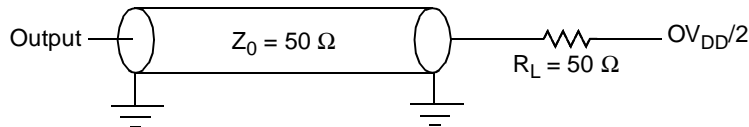

Figure 25. AC Test Load for the JTAG Interface
- All outputs are measured from the midpoint voltage of the falling/rising edge of t_{CLK} to the midpoint of the signal in question. The output timings are measured at the pins. All output timings assume a purely resistive 50 Ω load (see Figure 25). Time-of-flight delays must be added for trace lengths, vias, and connectors in the system.
- The symbols for timing specifications follow the pattern of $t_{\text{(first two letters of functional block)(signal)(state)(reference)(state)}}$ for inputs and $t_{\text{(first two letters of functional block)(reference)(state)(signal)(state)}}$ for outputs. For example, t_{JTDVXH} symbolizes JTAG device timing (JT) with respect to the time data input signals (D) reaching the valid state (V) relative to the t_{JTG} clock reference (K) going to the high (H) state or setup time. Also, t_{JTDXKH} symbolizes JTAG timing (JT) with respect to the time data input signals (D) went invalid (X) relative to the t_{JTG} clock reference (K) going to the high (H) state. In general, the clock reference symbol is based on three letters representing the clock of a particular function. For rise and fall times, the latter convention is used with the appropriate letter: R (rise) or F (fall).
Figure 25 provides the AC test load for TDO and the boundary-scan outputs of the MPC8347E.